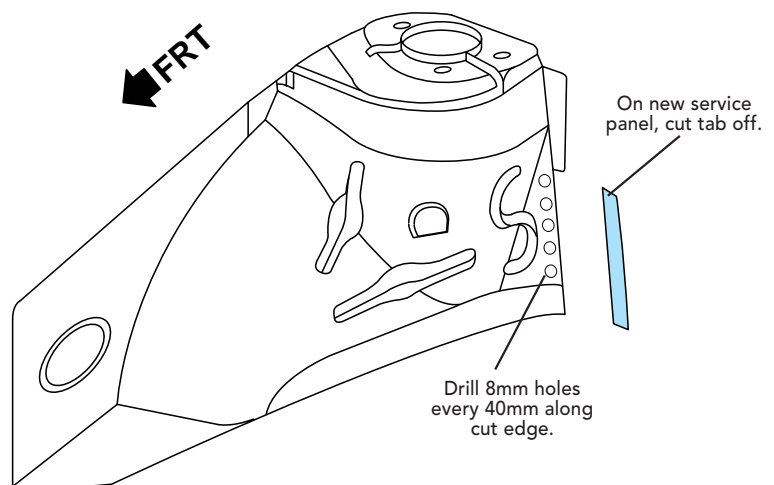

Fig. 4.9 — Cut Tab and Drill Holes
- 2 Cut the flange off the service part that is normally welded to the cowl panel (Fig. 4.9).